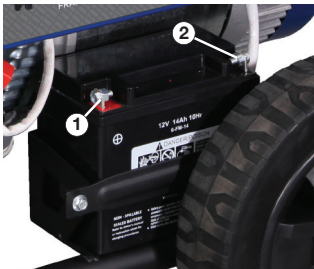

Figure 4 - Battery Connection Order
1. Always make sure to attach the positive (+) battery cable first (1) and then the negative (-) cable second (2) (see Figure 4).
thenegative (-) battery cable (black boot) to the negative(-) battery post as shown in Figure 4. Replace theblack boot so it protects the cable lug and battery post.